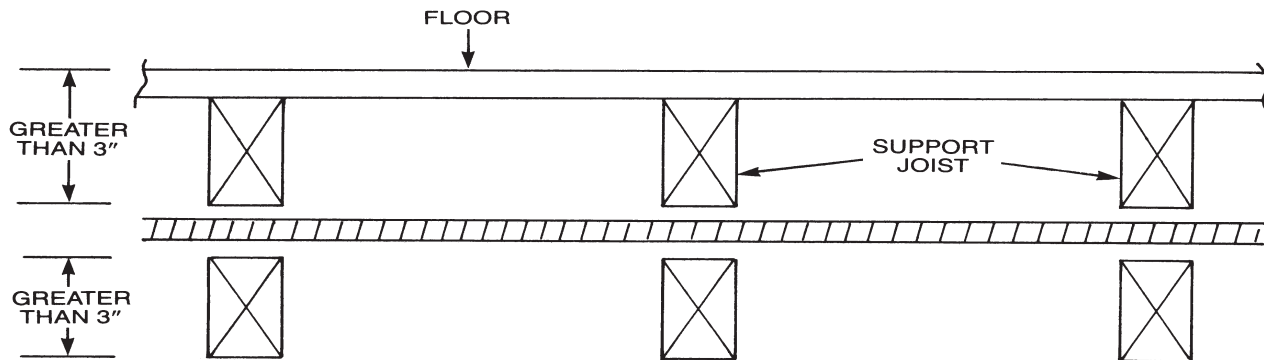

Figure: 4-22
a. Where the tubing is supported more than 3 inches from any outside edge of a stud, joist, plate, etc., or wall surface. (**Figure 4-22**)